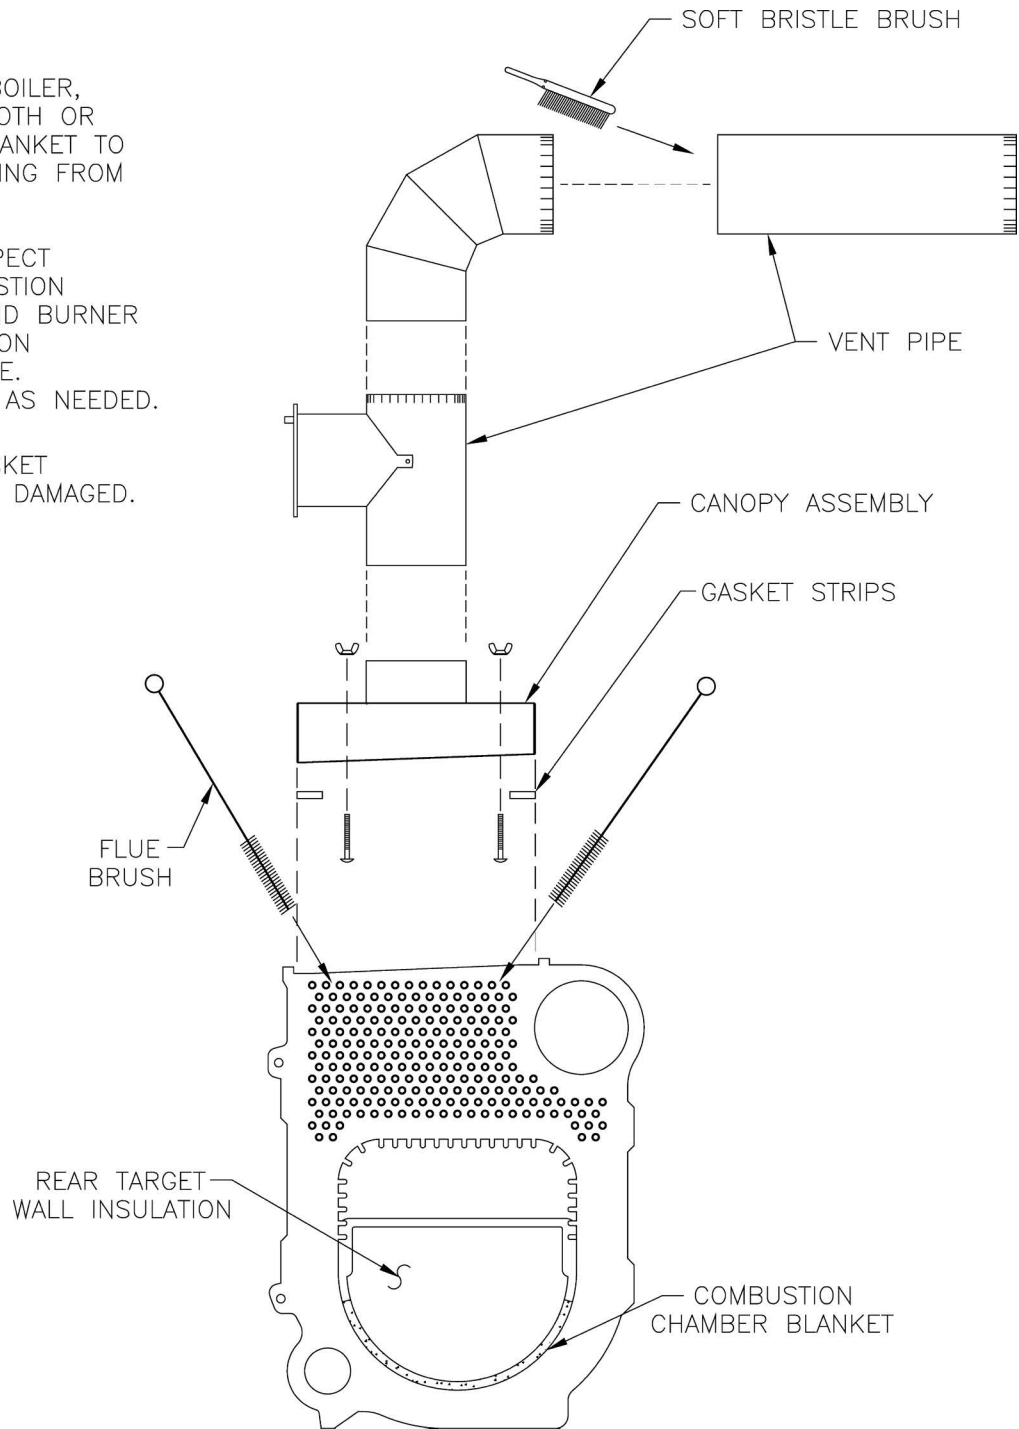

Figure 12-1: Cleaning of Boiler Flueways
A. CLEAN THE FLUEWAYS (See Figure 12-1).